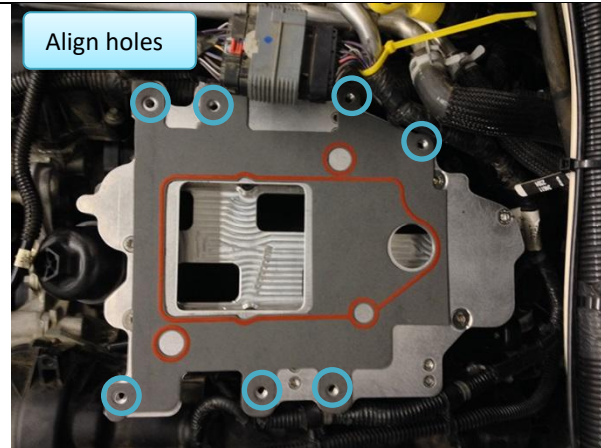

Figure 55: Correct supercharger gasket alignment and orientation on intake plate.
33. Place supercharger gasket on top of intake plate (Figure 55)